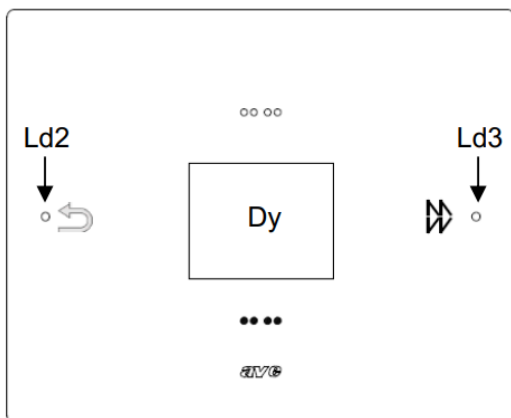

fig. 1a
- Contenitore: monoblocco S44 (76,5 l x 45 h x 29 p) mm, completo di placca in vetro o alluminio (vedi fig. 1a)
- Enclosure: monoblock S44 (76,5 l x 45 h x 29 p) mm, complete with glass or aluminum plate (fig. 1a)
Two RGB LED in areas A2 and A3 (see figure 1a).
Graphic color OLED display 1.69 "160 x 128 pixels (see Dy of figure 1a)